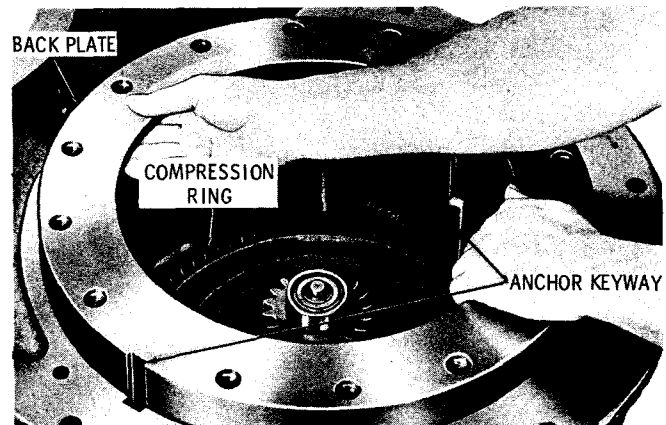

Fig. 7-12. Installing intermediate-range clutch back plate S1659
(12) Install the intermediate-range clutch back plate, aligning the keyways with the anchor keys (fig. 7-12). Be certain that the compression ring is positioned against the surface onto which the back plate seats.